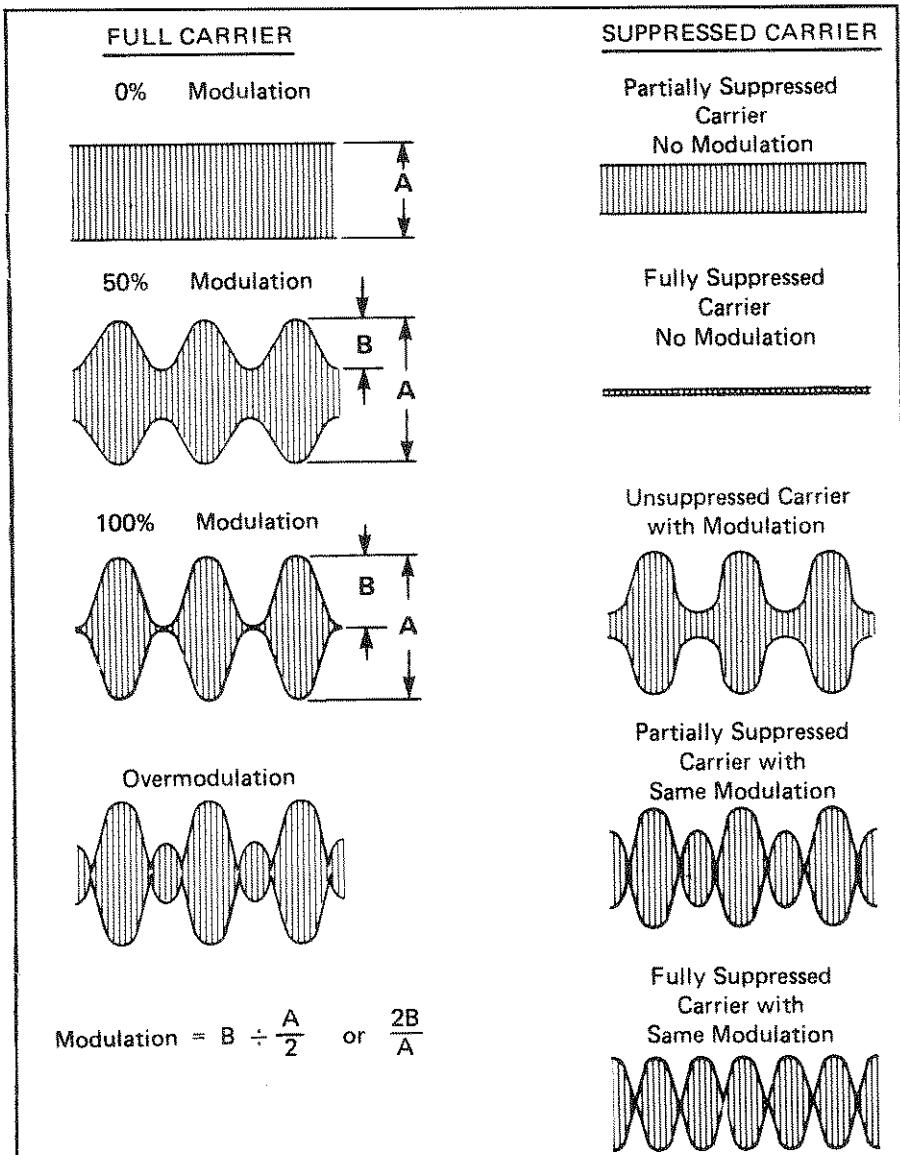

Fig. 9. AM modulation and suppressed carrier waveforms.
5. As the CARRIER LEVEL control is rotated from fully clockwise to fully counterclockwise, carrier level reduces from maximum to minimum, then increases with opposite polarity. Minimum carrier level is obtained at the null near the center of the CARRIER LEVEL adjustment range. This is easily seen with no modulation applied as shown in Fig. 9.
6. With a given modulating signal applied, the percentage of modulation increases as the carrier level is reduced. Significant reduction in the carrier level will produce over-modulation. Minimum carrier level is obtained when the overmodulation envelopes are of equal amplitude as shown in Fig. 9.